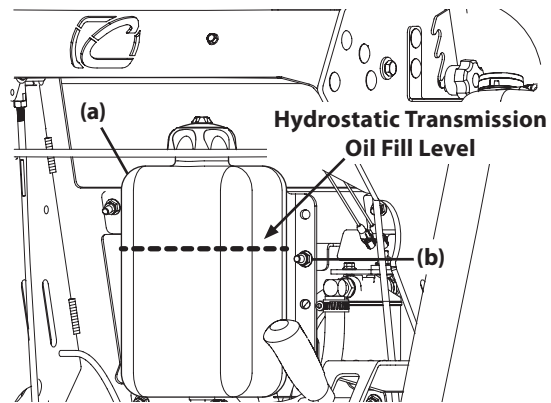

Figure 21
2. Ensure the hydrostatic transmission oil reservoir level is just above the upper reservoir mounting bolts (c) as shown in Figure 21.